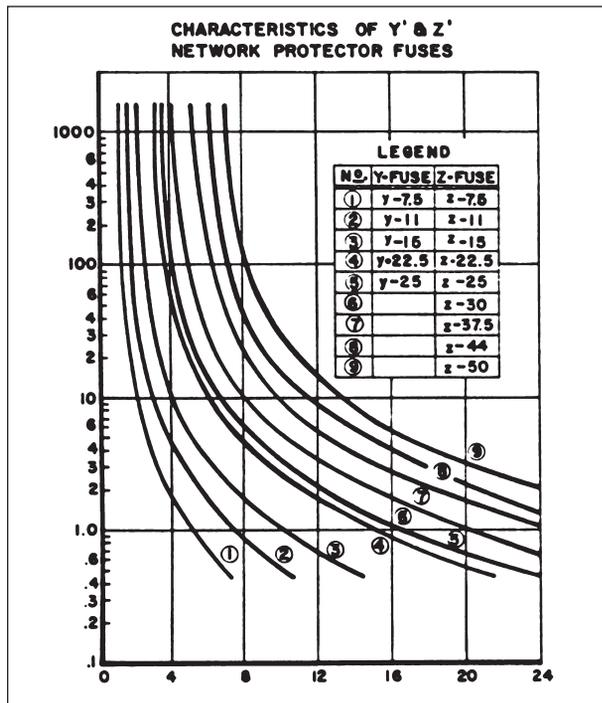

Figure 7: Amperes in Thosands
Type Y and Z Network Protector Fuses provide back-up protection in case the protector breaker fails to operate during a primary fault. The fuse time-current curves (Figure 7), are similar to those of the limiter, thus permitting correct fuse-limiter coordination for complete network protection.
3. Select a fuse with its time-current characteristics (Figure 7) lying between the limiter curves plotted in steps 2 and 3.